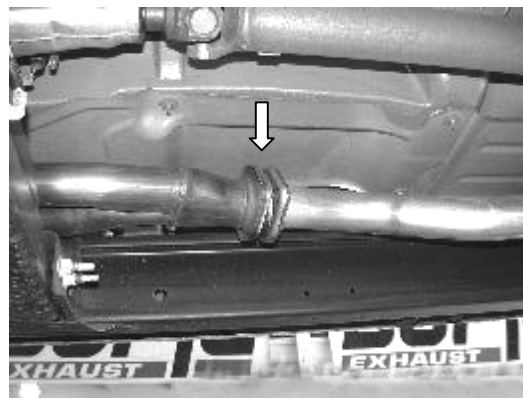

Figure 2
3. Unbolt flange shown in figure 2 just after catalytic converters and place hardware to the side for use during the installation of your new exhaust system.